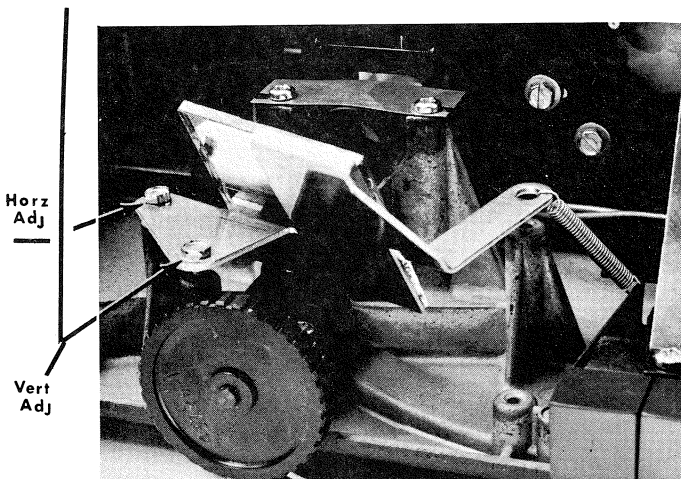

Figure 3. Primary Mirror
6. PRIMARY MIRROR ASSEMBLY (Fig. 3)